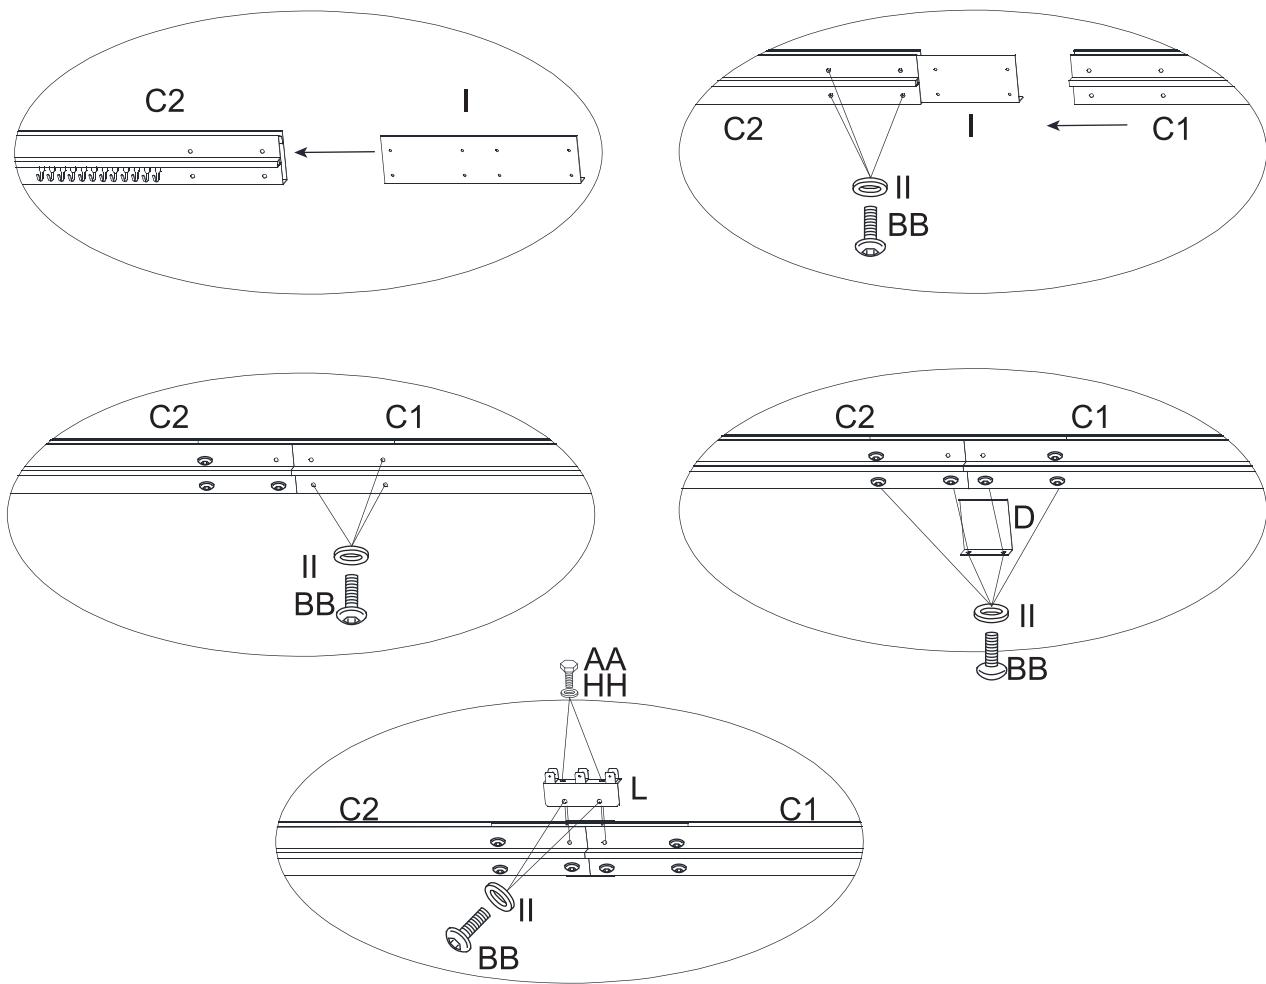

Figure 2.2
- 2.2. Connect the Short Left Lintel (C1) with the Short Right Lintel (C2) through the Lintel Connector -Large (I) by bolt (BB ) and washer (II), then connect the Top Beam Guard (L) to the joint of the Lintels(C1/C2) by bolt (AA/BB) and washer (HH/II) , put the Lintel Cover - Center (D) onto the joint of the two lintels with bolt (BB) and washer (II), pay attention to install the screws based on the orders shown in the illustration. Figure 2.2.